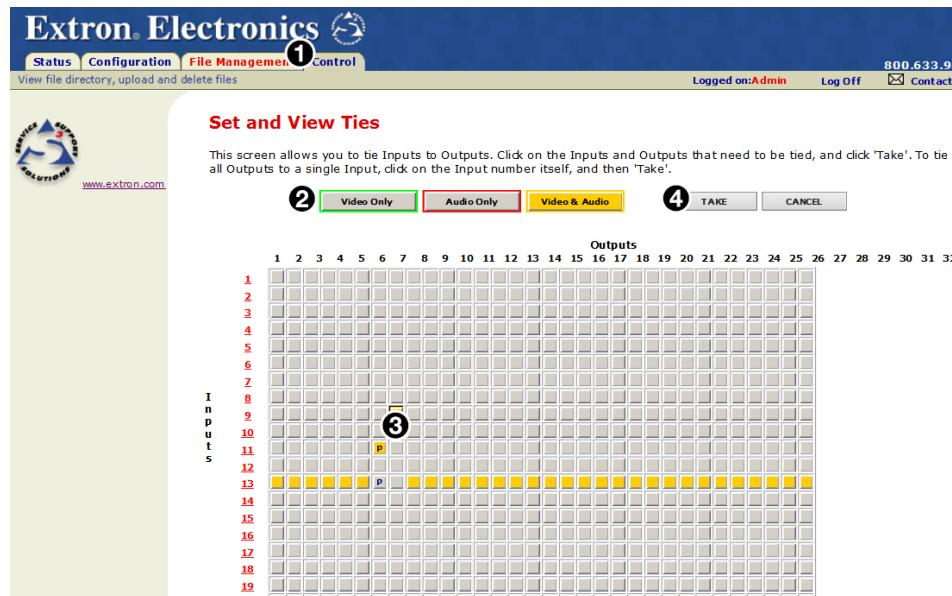

Figure 38. User Control Ties page
You can create ties on the Set and View Ties page. Access the Set and View Ties page by clicking the **Control** tab (see figure 38, ①).